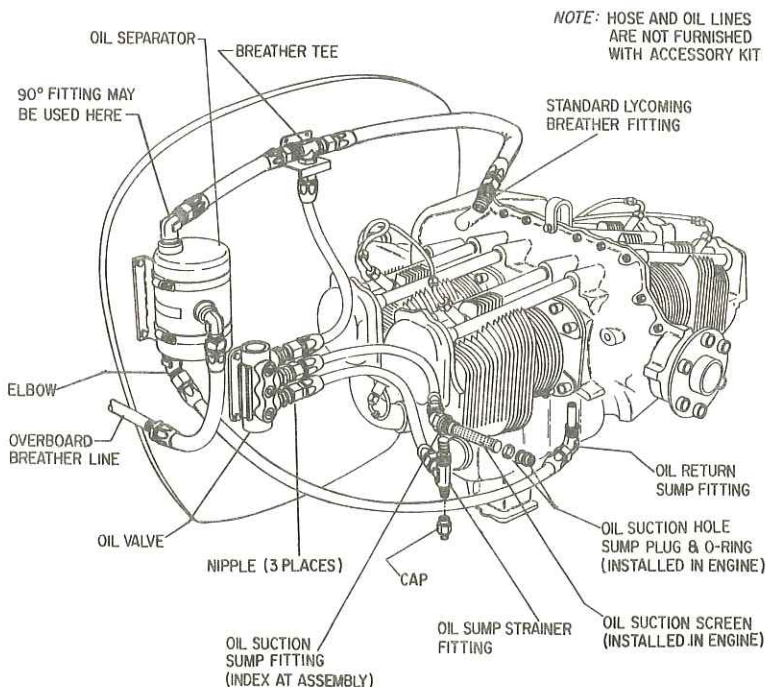

Figure 3-1. Typical Inverted Oil System Component Identification
The inverted oil system, shown in Figure 3-1 is supplied as a kit-form accessory for Avco Lycoming AEIO-320, -360 and -540 engines which permits normal engine lubrication, with minimal oil loss, during inverted flight. The system functions in all negative-g flight conditions, and is particularly suited to high performance aircraft used for unlimited-class aerobatic competition involving extensive inverted flight and frequent negative-g maneuvers.
The inverted oil system kit, as shown in Figure 3-1, consists of the oil valve, oil separator, sump fitting, breather tee, oil sump strainer fitting, and oil return sump fitting. The oil suction screen, oil suction sump fitting and sump plug are installed in the engine and are not included with the accessory kit. Hose, oil lines, and standard fittings required to install the kit are not included.
- d. To ensure rapid return of oil to the sump from the oil separator, the fitting at the bottom of the oil separator must be either straight, or 45° maximum. If a 90° fitting is used at this point, excessive oil losses may result. See figure 3-1.
f. Install required fittings in all engine and component ports. Use anti-seizing lubricating thread compound. Normal fitting locations for typical installations are shown in figure 3-1.
h. Measure and cut hose for remaining oil lines. Typical hose layout is shown in Figure 3-1. To determine exact cutting length for hose using Aeroquip 816-10D hose fittings, allow exactly 1 inch for each hose fitting.